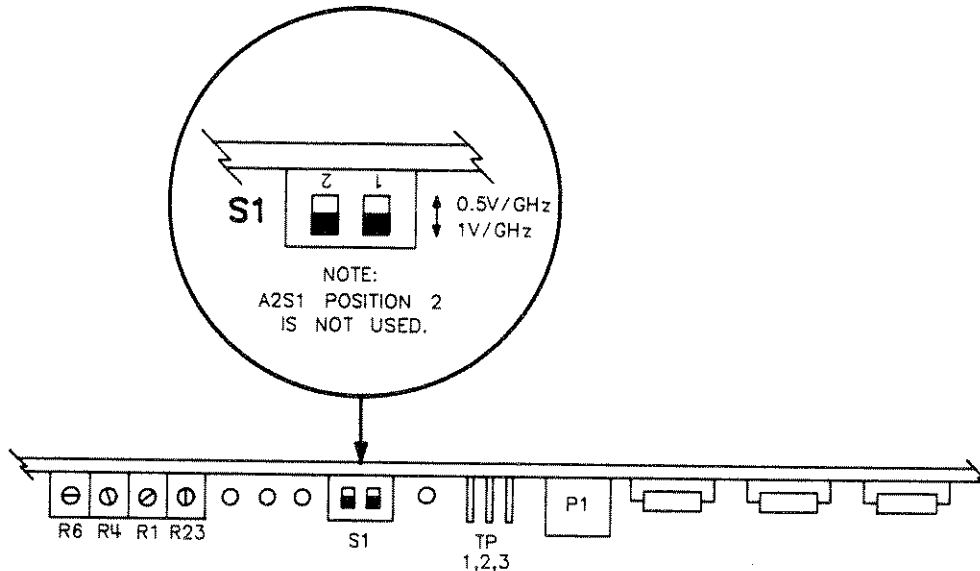

Figure 3-6. Frequency Reference Output Selection Switch, A2S1
4. **1.0/0.5 V/GHz.** Internally selectable BNC connector output (1.0 or 0.5 V/GHz) that corresponds to the RF output frequency. The 1.0 V/GHz has a frequency range of 0.01 to 18.0 GHz; the 0.5 V/GHz has a frequency range of 0.01 to 26.5 GHz. Figure 3-6 shows how to set the frequency reference output selection switch A2S1.
Use position 1 on A2S1 to set the frequency reference. See figure 3-6.